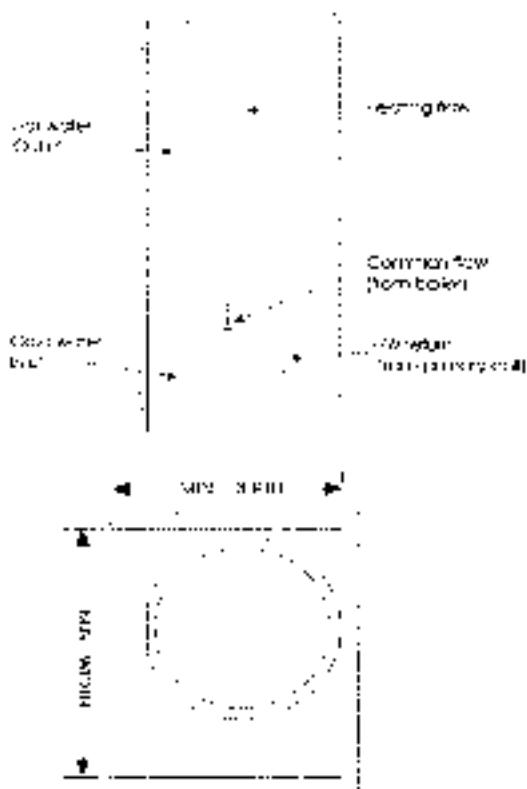

Figure 3.1 SysteMate III Connection arrangement
- Make all water connections in accordance with the labelling on the thermal store and the associated pipework as shown in Figure 3.1.